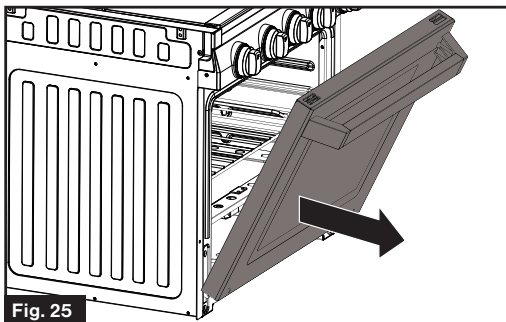
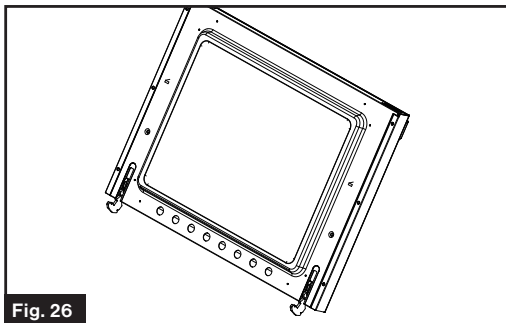

Fig. 25
Fig. 26
5. Holding the door firmly on both sides and using both hands, pull the door straight out of the hinge slots. (Fig. 24, Fig. 25 and Fig. 26) Hold firmly, the door is heavy.